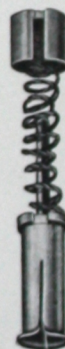

Figure I-9
chamber, the floor plate, the globe cap, the lower carbon holder and inner globe holder. The clutch is part of the common structure, and also the bell-mouthed sheath and cable (Figure I-9) carried in the center tube. The casing is a part of the common structure since it is identical for all the lamps.
**Sheath and Cable.** The sheath and cable shown in Figure I-9 are of a design based on long experience and are mounted within the center tube. The sheath is of phosphor bronze tube, swaged to proper diameter and bell-mouthed to facilitate insertion of the carbon. The sheath is within plain sight and reach during trimming and the cable may be inspected throughout its length through openings in the center tube. The sheath is slotted and moves up and down on a spline to prevent turning or twisting.